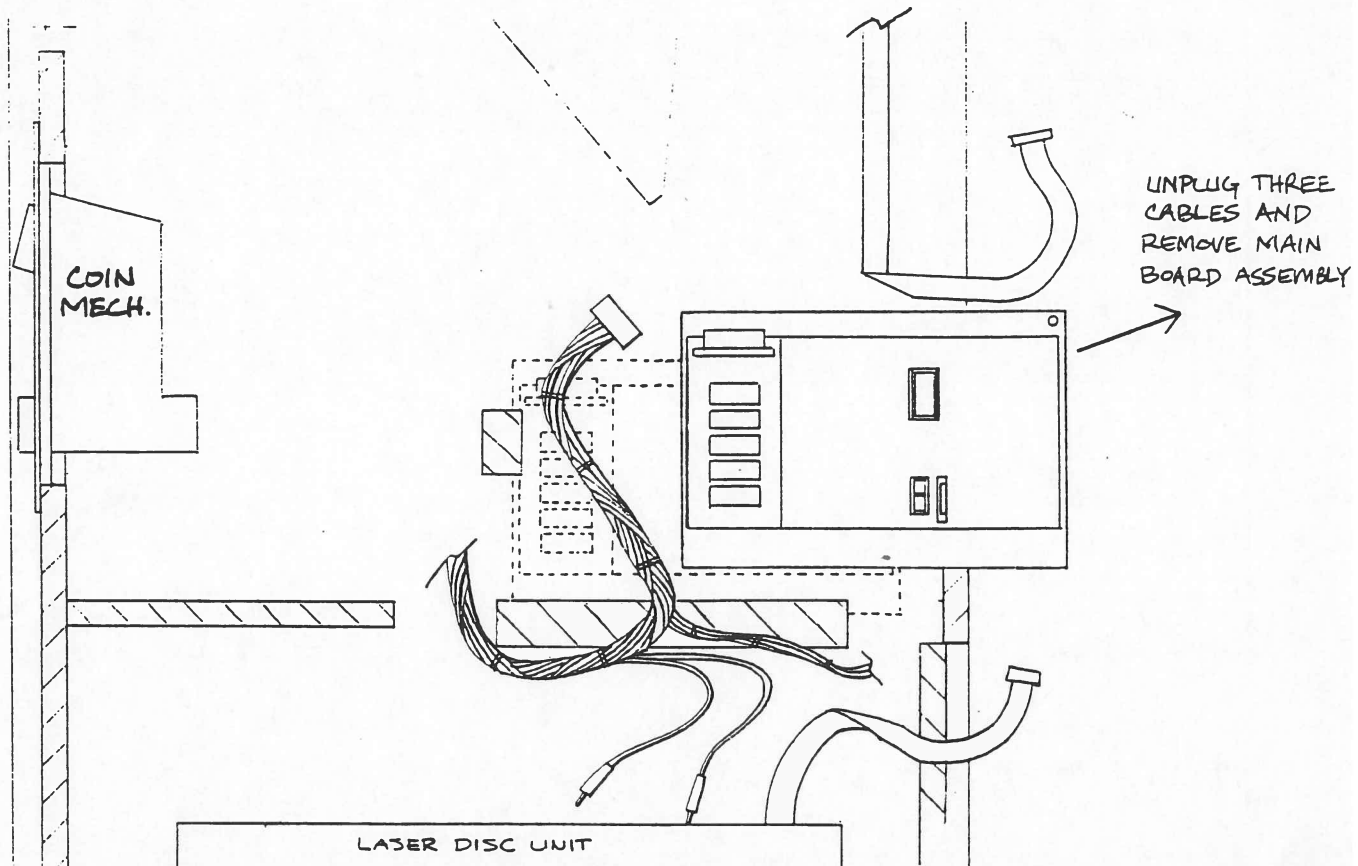

FIGURE 2
1. Using Figure 2 as a reference, locate the block connector that mates the main wiring harness with the old main circuit board on the right hand side of the cabinet (as viewed from the rear). Pull firmly, but carefully, to separate the plug from the jack.